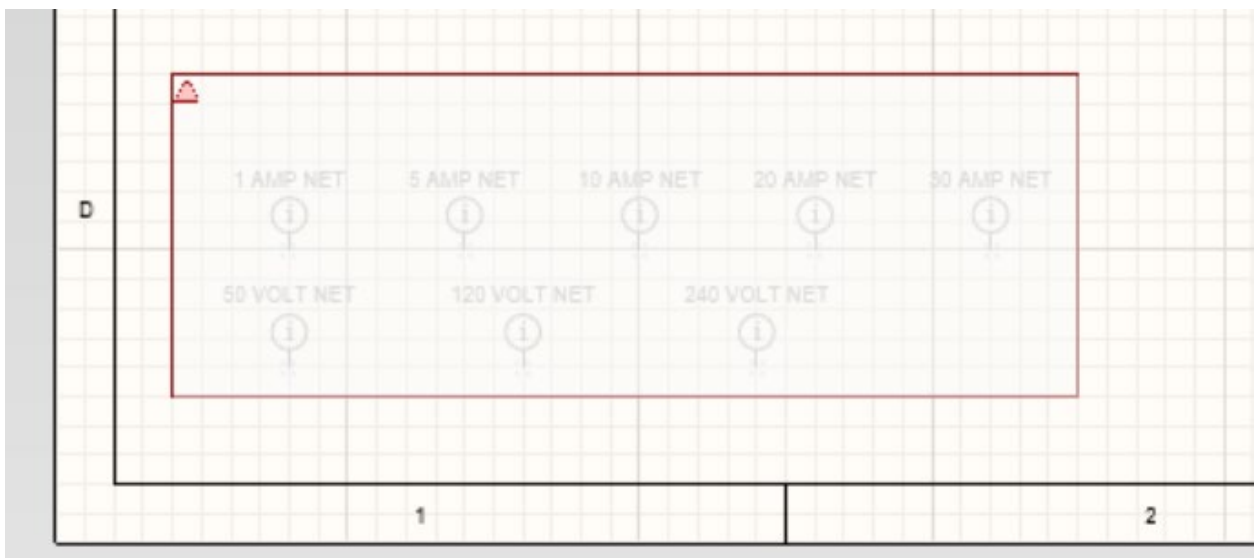

Figure 3. Directives Enclosed by Compile Mask
15. Note the Directives in the lower left corner of the schematic that are covered by a Compile Mask, as shown in Figure 3. This is done to remove them from the validation process (Netlist).